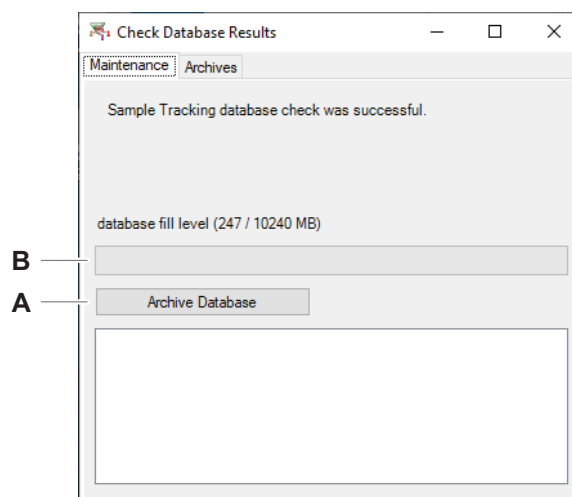

Fig. 6-15 Check Database Results
- 1 Select or clear the check box in the column **Enabled** (B) to enable/disable user accounts Fig. 6-18, Fig. 6-15.
- 2 Select the check box in the column **Admin** (C) to grant administrator access rights to users Fig. 6-18, Fig. 6-15.
- 1 Click on **New** (A) Fig. 6-18, Fig. 6-15.